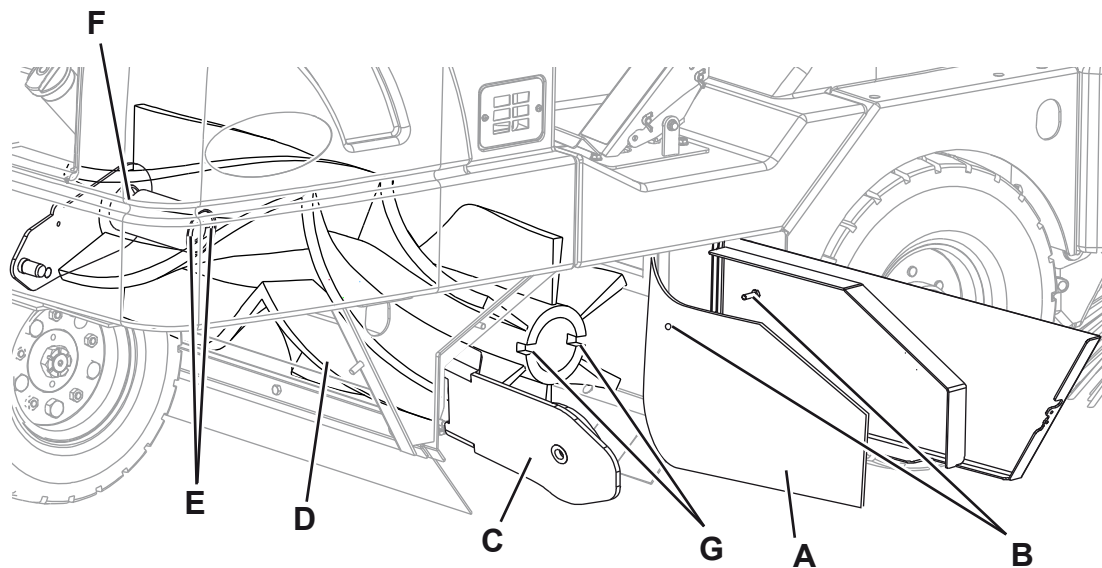

Figure 2
3. Turn the ignition key (66) and start the machine.
4. Lower the main broom with the lever (53).
5. Turn the ignition key (66) to "0" to stop the machine.
6. Open the right panel (18).
7. Move aside the right side skirt (A, Fig. 2) and fasten it with the pin (B).
8. Pivot the idler arm assembly (C) out of the main broom core (D).